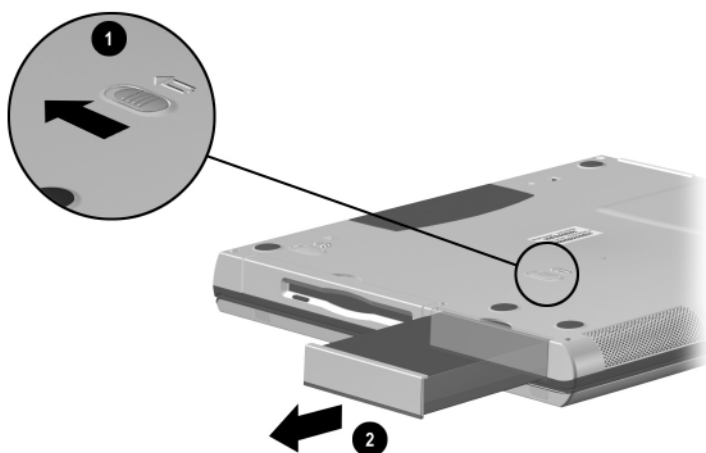

Figure 5-2. Removing the Battery Pack
- b. Slide and hold the battery release latch toward the back of the computer ❶ (Figure 5-2).
- c. Use the notch in the battery bezel to slide the battery pack to the left ❷.